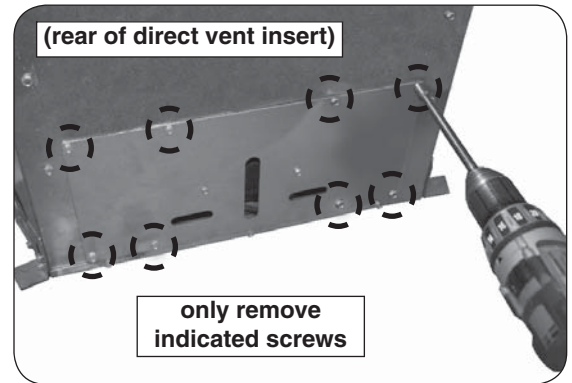

Fig. 57-1 Unfasten rear panel
3. Remove the 8 securing hex screws and the rear panel (fan assembly attached) using a $\frac{5}{16}$ " nut driver or equivalent. See Fig. 57-1.